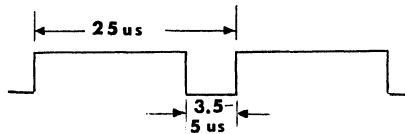

Figure 5-2
5. Q3/Q4 drive current should be approximately 1.1A. Current pulse OFF time should be from 3.5 to 5.0 usec (see Figure 5-2).